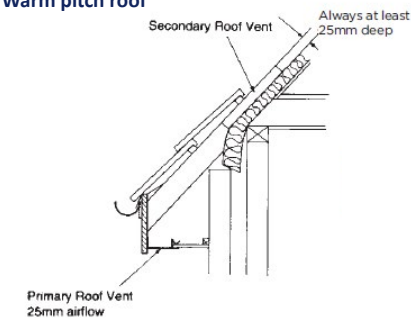

Fig. 4a
- With a flat roof a free airflow is required which is equivalent to a continuous 25mm opening (25,000 mm² per metre). See Figs. 4a,4b and 4c